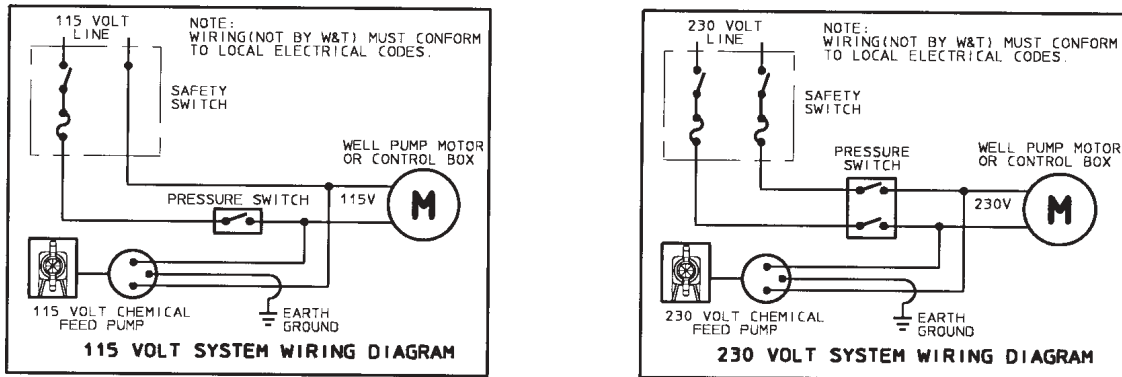

Figure 2.7
- Ensure that the metering pump voltage matches the voltage of the well pump. Typical well pump electrical circuits are shown in Figure 2.7. All electric wiring should be installed by a licensed electrician and in accordance with local electrical codes.